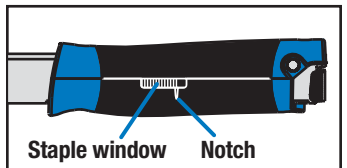

Figure 4
- With partial (broken-off) rows of staples, you can fill staples all the way up to the notch under the staple window and still be able to replace the staple pusher (figure 4).